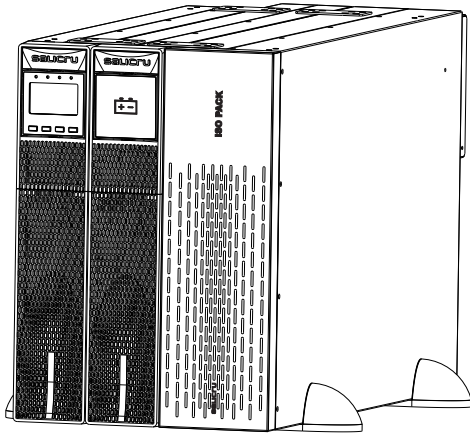
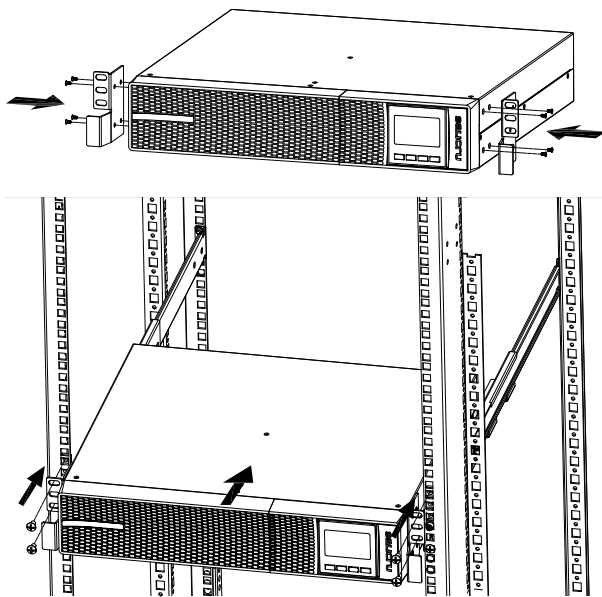
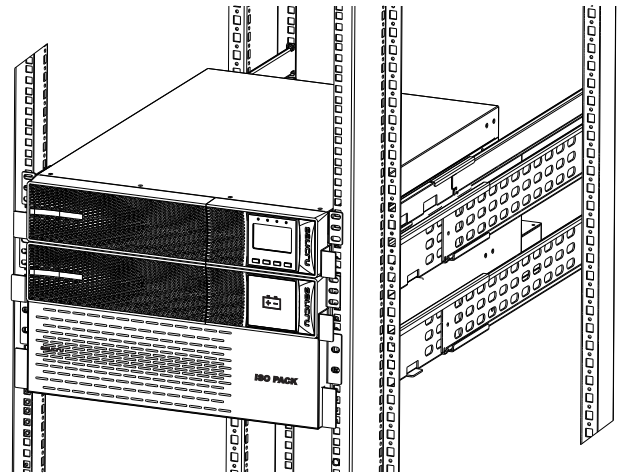

Fig. 9. Vertically mounted tower-type model.
Fig. 10. Mounting a UPS in a 19" cabinet.
Fig. 11. Mounting the set in a 19" rack cabinet.
- Fig. 9 to Fig. 11 show, by way of example, illustrations of a device with or without its battery module and isolation transformer. These illustrations provide help and guidance on the steps to follow, but the instructions are not intended to refer to a single model, although, in practice, the actions to be carried out are always the same for all of them.
- Place the UPS, battery module and isolation transformer upright between the two bases, similar to as shown in Fig. 9.
- To mount a device in a 19" rack cabinet, proceed as follows (see Fig. 10 and Fig. 11):
To install the battery module and the transformer, follow the steps described above for the UPS until obtaining the assembly shown in Fig. 11.